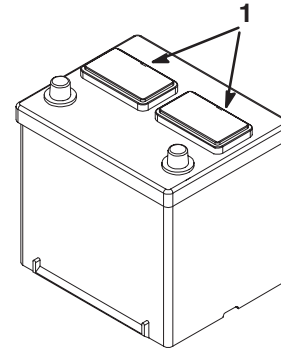

Figure 7
2. Clean the top of the battery and remove the vent caps (Fig. 7).